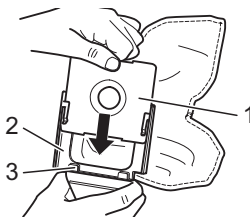

Fig. 20
6. Push the new dust filter bag (Fig. 20/1) into the dust bag holder (Fig. 20/2) as shown, so that it rests against the bottom mounting angles (Fig. 20/3) of the dust bag holder.